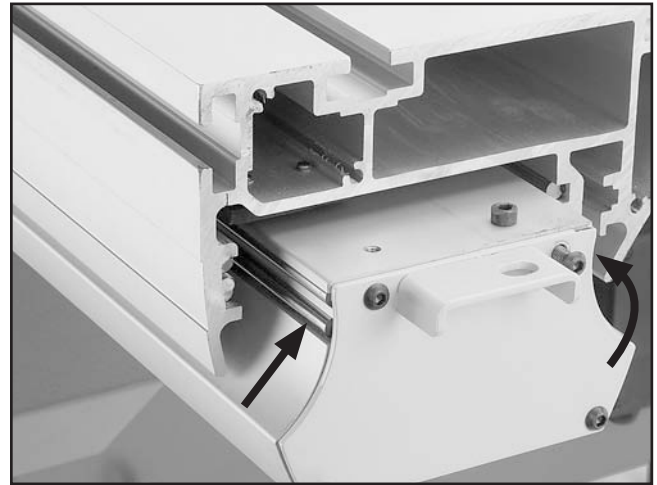

Figure 121. Sliding table ways.
- Lubricate sliding table ways (**Figure 121**).
Sliding Table Ways: Spray or wipe on a light machine oil (such as those shown on **Page 60**) the entire length of the steel rods (see **Figure 121**).